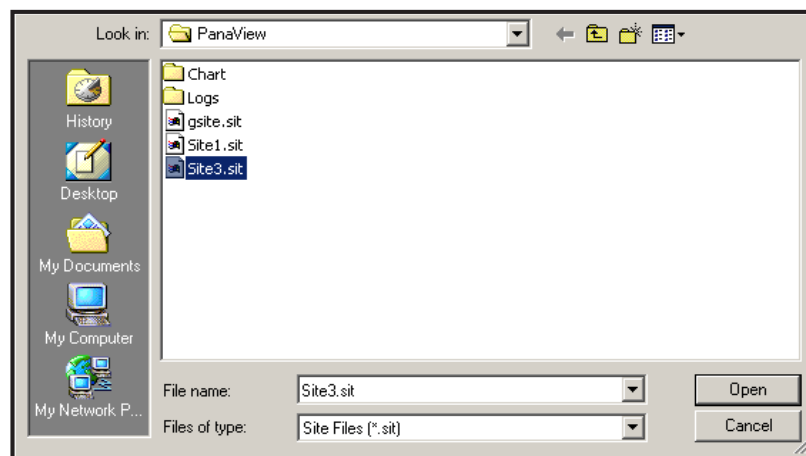

Figure 32: Site File Selection
2. Then click on the *Save Site to Meter* button. A screen opens similar to Figure 32.
3. The *Site File Selection* window (Figure 32 on page 110) opens. Highlight a site with the desired settings, and click [Open]. PanaView saves the site in the meter with the new name and the desired settings.
3. The *Site File Selection* window opens (refer to Figure 32 on page 110). Enter the desired site name (now with a .prt suffix) and click [Save]. PanaView displays a text version of the site, as shown in Figure 34.